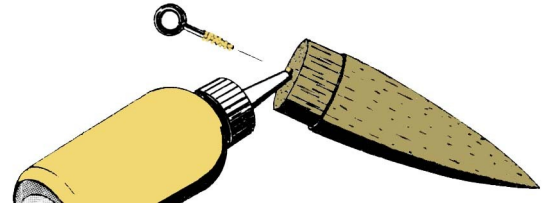

Figure 3
- **Step 4** Use the threads of the screw eye to cut matching threads into the base of the nose cone, then carefully reverse the screw eye out of the hole. As shown in Fig. 3, force glue deep into the hole, and coat the screw eye threads with glue, then reinsert the screw eye into the hole. Do not wipe away any glue. Set this aside to dry in a vertical attitude, pointing downward.